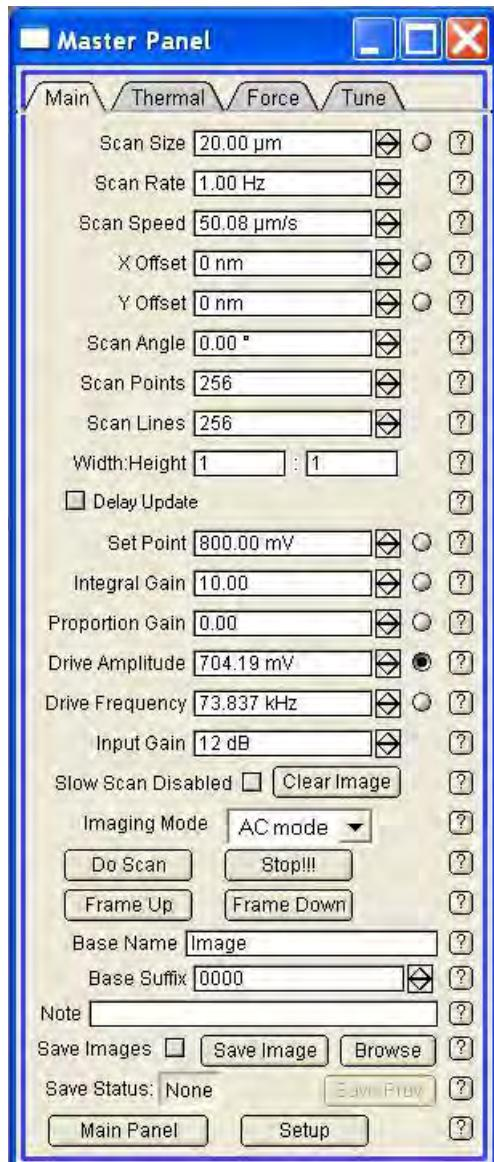

Figure 6.9 Master Panel, Main
Once your tip is on the sample surface and you have entered the desired primary scan parameters (Section 6.3, Set Primary Scan Parameters on page 148) begin imaging by clicking on the 'Do Scan' button (Figure 6.9 on page 157). You can also specifically select 'Frame Up' or 'Frame Down' if you prefer, to begin from either the bottom or the top of the scan image.
5. To save the pre-selected channels, give your files a ‘Base Name.’ (See Figure 6.9 on page 157) The software will automatically assign the Base Suffix, typically beginning with ‘0000.’ Click on the ‘Save Images’ box and select a directory in which to save your files: When the current image is being saved ‘Save Current’ will appear next to the ‘Save Status’ parameter.